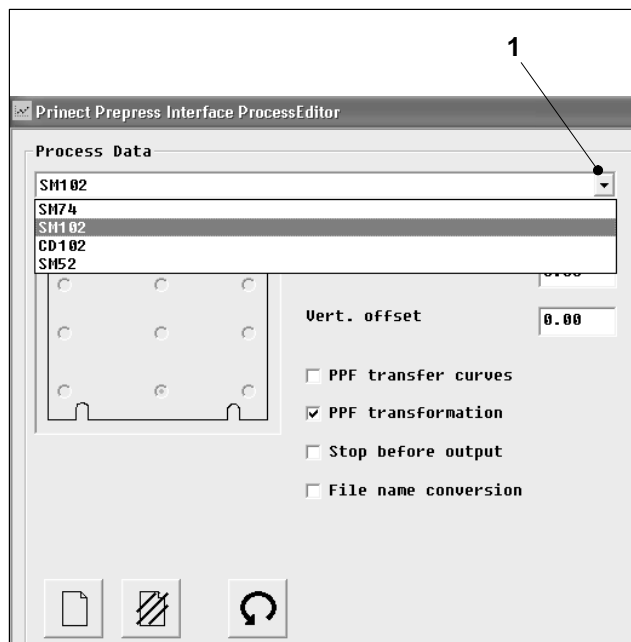

Fig. 28 List of all created processes
1. Select the process you wish to edit from the drop-down list box (Fig. 28/1) in the *Process data* section. For example "SM 102"